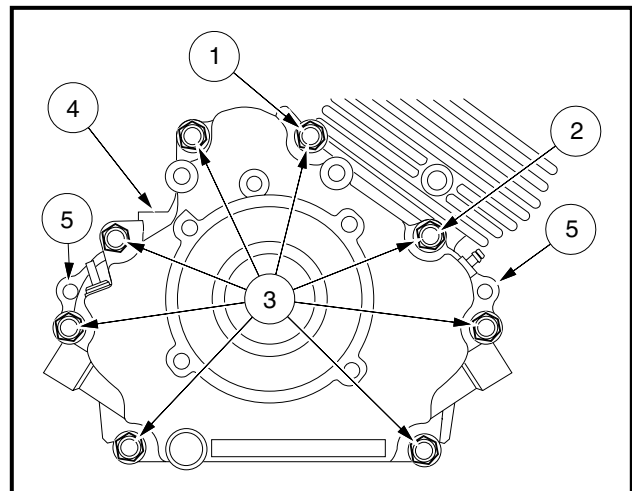

Figure 2-40 Crankcase Cover
2. Remove nuts and clamps at two-ended bolts (1 and 2) (Figure 2-40, Page 2-21).
3. Remove eight bolts (3) and remove the crankcase cover (4) (Figure 2-40, Page 2-21). See following **NOTE**.